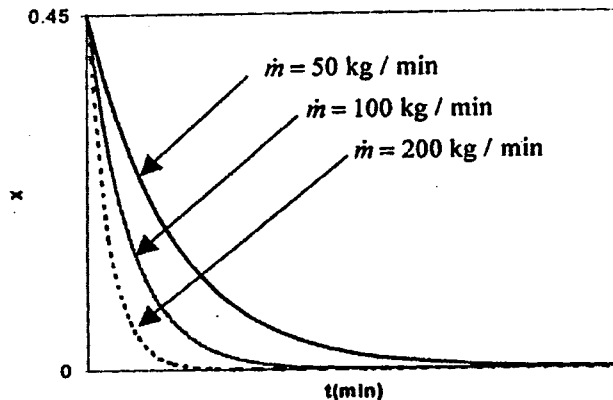

Figure Q.6.
- [iii] Refer Figure Q. 6., data for $\dot{m} = 50$ kg/min, 100 kg/min and 200 kg/min are plotted. Discuss the results shown in the figure in light of part [ii].